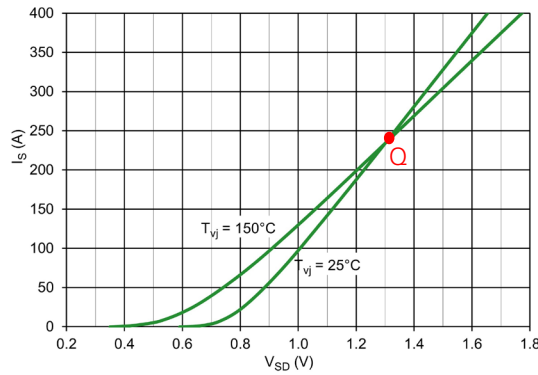

**Figure 27. Forward Biased Safe Operating Area (FBSOA) Curve**
**Forward-Bias Safe Operating Area (FBSOA)** is a datasheet figure of merit that defines the maximum allowed operating points. **Figure 27** shows a typical FBSOA characteristic for an N-Channel Power MOSFET. It is bound by the maximum drain-to-source voltage  $V_{DS}$ , maximum conduction current  $I_{DM}$ , maximum drain-source on-state resistance and constant power dissipation lines for various pulse durations.
In **Figure 27**, there is a series of curves that include a DC line along with four single pulse operating lines, 10 ms, 1 ms, and 100  $\mu$ s. The top of each line is limited by the maximum drain current and is bounded by a positive sloped line defined by the on-state resistance  $R_{DS(on)}$  of the device. The right-hand side of each line is terminated at the rated drain-source voltage limit  $V_{DS}$ . Each line has a negative slope and is determined by the maximum power dissipation  $P_{tot}$  of the device: